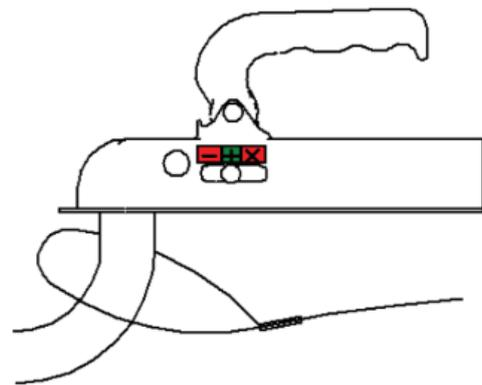

Figure 1: locked coupling device.
Attach the safety cable of the trailer to the coupling hook of the towing vehicle and check its condition. Lift the coupling device of the trailer onto the ball mount of the towing vehicle and push it down until the coupling device locks into place with an audible click. When lifting, consider the weight of the trailer to avoid any potential injuries. The green status indicator on the coupling device of the trailer indicates that the trailer coupling is firmly locked (+ position shown in Figure 1).
If the trailer coupling device does not lock in the position shown in Figure 1, determine the cause and do not start driving; it is prohibited! The explanations for coupling device status indicators are shown in Section 2.1.
- the condition of the coupling device (see Figure 1 and Section 2.1). It is important to ensure that the height of the towing hook of the towing vehicle is within range of 430 ± 35 mm according to standard DIN 74058;